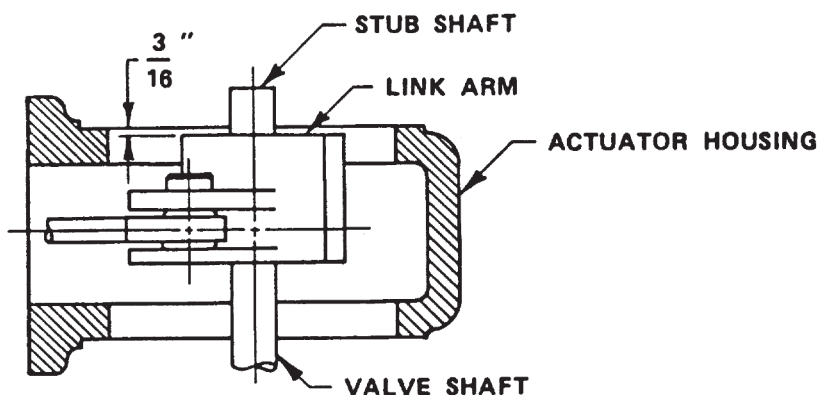

Figure 6: Link Arm Position
5. Position the link arm so its top edge is approximately 3/16" below the top edge of the actuator housing as shown in Figure 6, page 21.
11. Position the link arm on the valve shaft so its edge is about  $\frac{3}{16}$ " below the top edge of the actuator housing as shown in Figure 6, below.